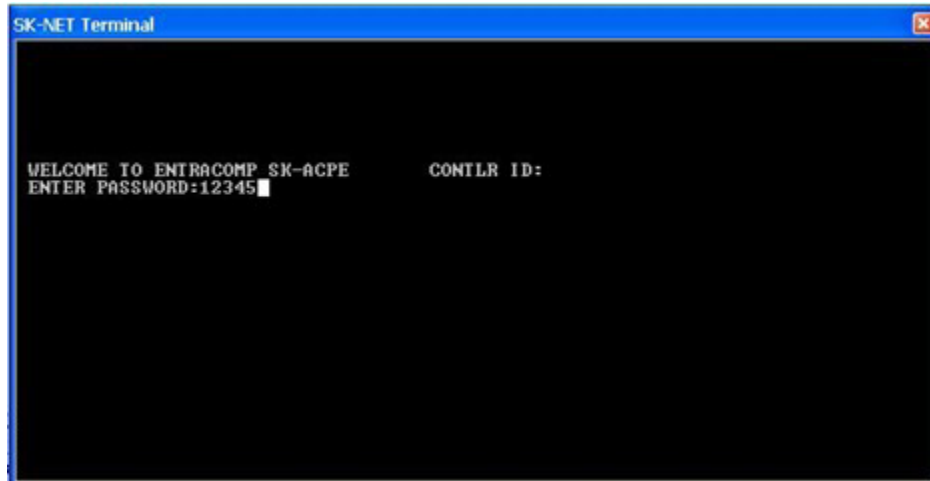

Figure D-1. SK-ACPE Log-on Screen
7. Select Test. The SK-ACPE Log On Screen displays (Fig D-1)
1. Follow Steps 1-7 in the previous section to display the SK-ACPE Login Screen (Figure D-1)